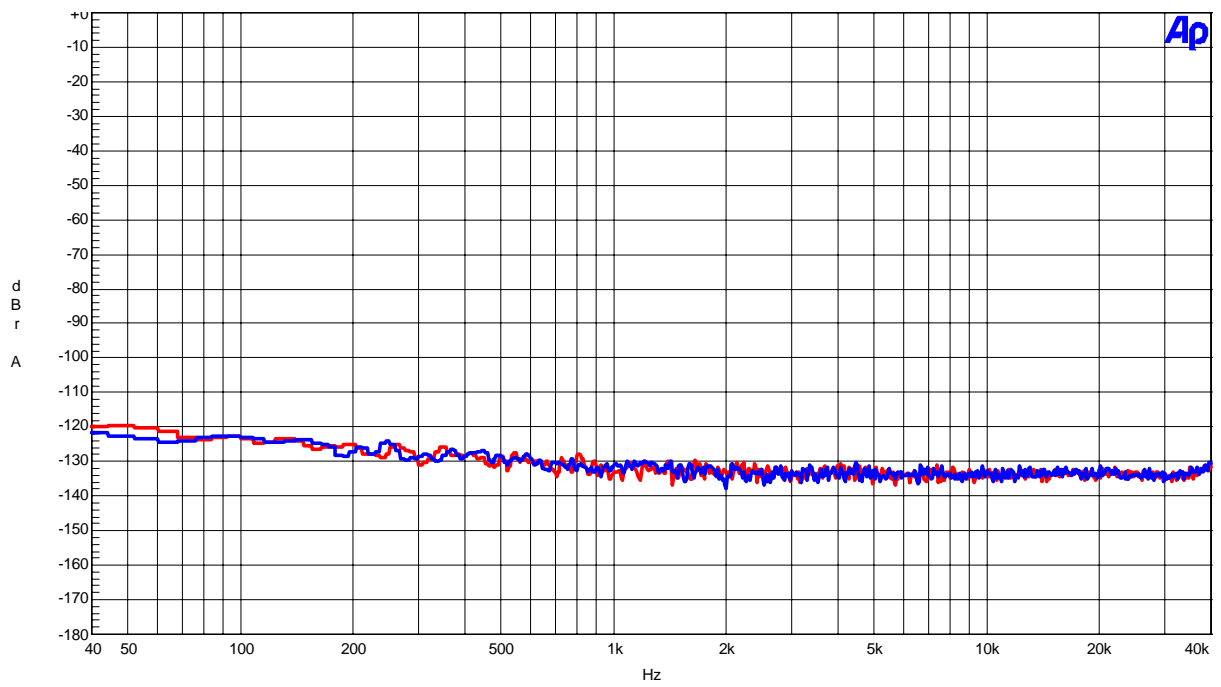

Figure 20. FFT(noise floor)
- Figure 20. FFT (noise floor)